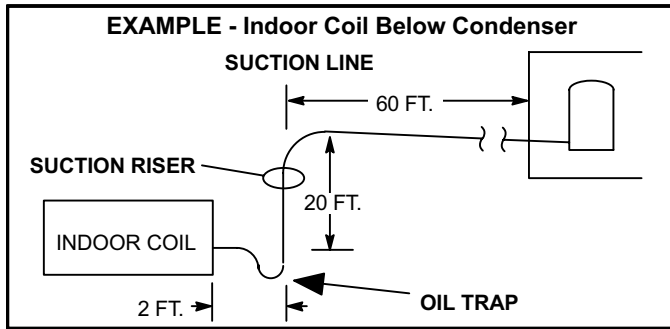

FIGURE 15
**Given:** 7-1/2 ton condensing unit with evaporator lower than condenser. Application includes 82 linear feet of piping and 4 ells. There is a 20-foot vertical lift and 62 feet of horizontal run. Refer to figure 15.